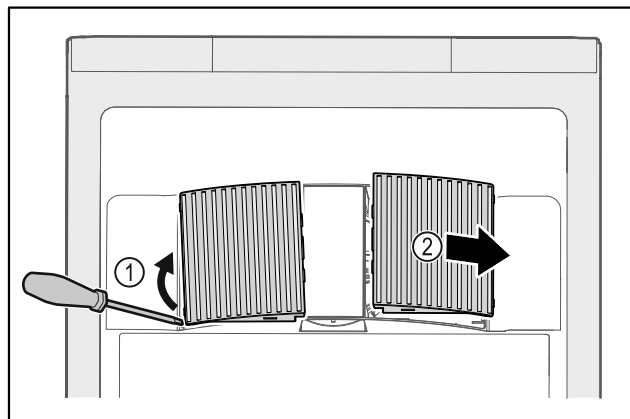

Fig. 150
- ▶ Carefully lever out fan covers from the side Fig. 150 (1) and remove towards the front Fig. 150 (2).